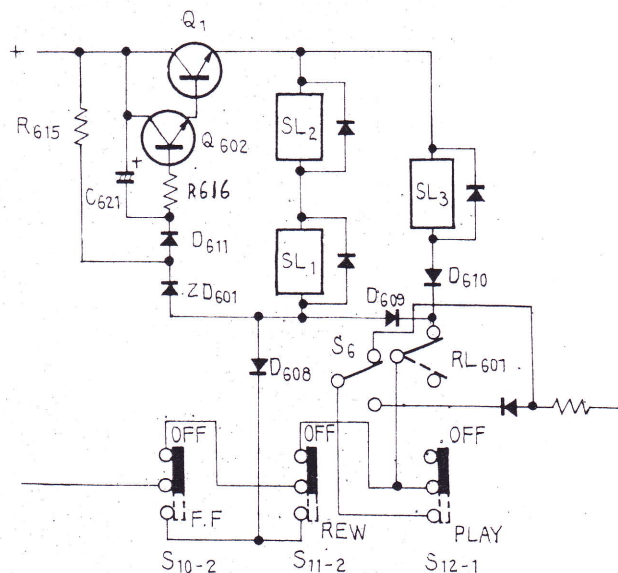

Fig. 5
• Control Circuit for Solenoid Supply Voltage (Fig. 5)
This circuit operates to prevent overheating from continuous operation of the solenoid, thereby dropping the current to that required to hold it ON. In Fig. 5, Q1, Q602, and ZD601 from a voltage stabilization circuit supplying the retaining current for continuous operation of the brake solenoids (SL1, SL2) and the pinch roller solenoid (SL3).